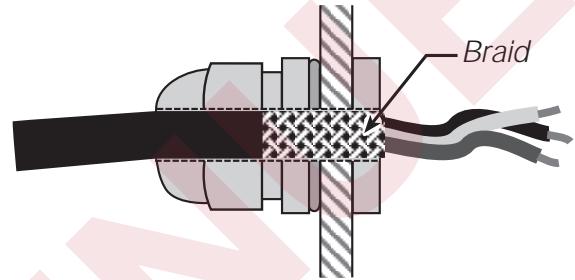

Figure 2. Braided Shield Cabling
5. For cables with braided shielding, cut the shield at the same location as the insulation, then strip an additional 15 mm of insulation from the cable to allow the shield to contact the inside of the metal cord grip (see Figure 2).
7. Route cables through cord grips so cable shield contacts cord grip fitting as shown in Figures 2 and 3. Tighten cord grips.